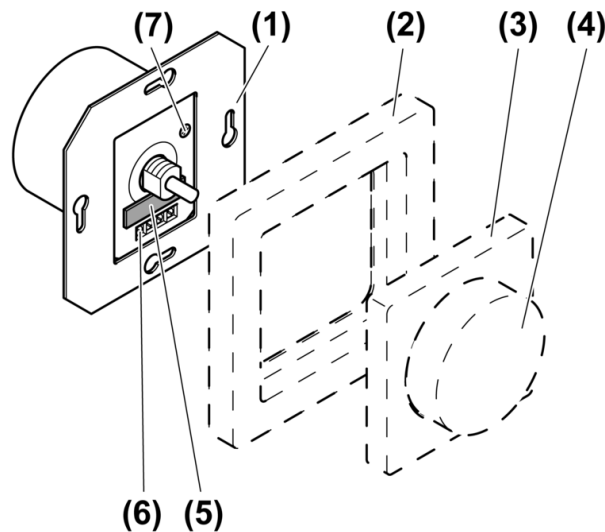

Figure 1: Device components
- Set basic brightness by turning the adjuster (7) (Figure 1). The basic brightness must be set in such a way that the connected lamps are still visibly lit when the control button is turned all the way to the left.